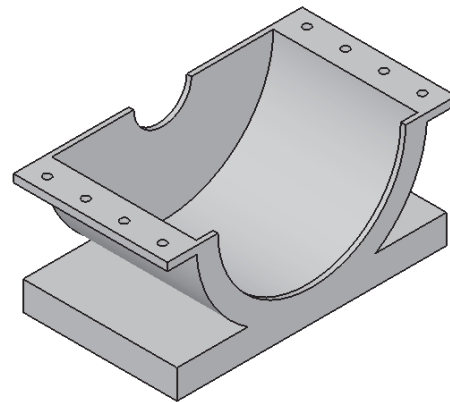

Figure 11-66 The Lower Housing, after modifying its orientation
4. Click anywhere in the geometry area to exit the **Snap** tool. Set the orientation of the view of the assembly to Isometric. The Lower Housing is placed in the correct orientation, as shown in Figure 11-66.